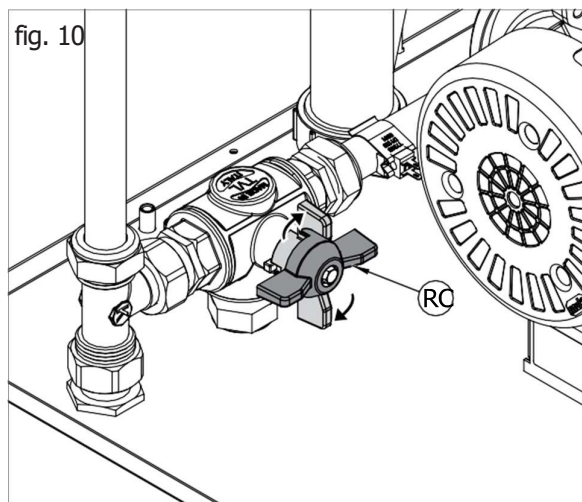

fig. 11
- > Activate the recirculation mode by simultaneously pressing the 'R' and '-' buttons of the control panel (figure 11). The activation of the recirculation mode is displayed on the control panel as indicated by the 'RL' symbol.